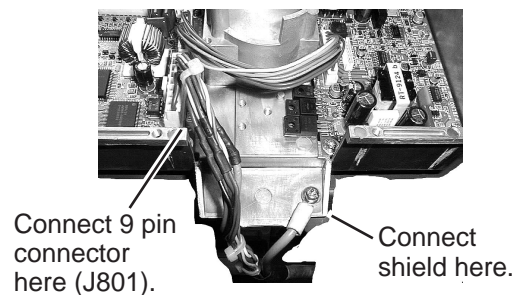

Figure 8 How to connect the antenna cable to the antenna unit
- Referring to Figure 8, fasten the shield cable to a screw (M4x 10) on the chassis to ground the unit.
- Referring to Figure 8, connect the 9-pin connector of the antenna cable to J801.